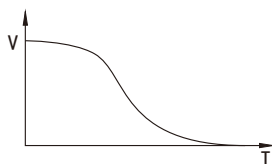

Figure 15
1. Soft Stop Mode (See Figure 15)